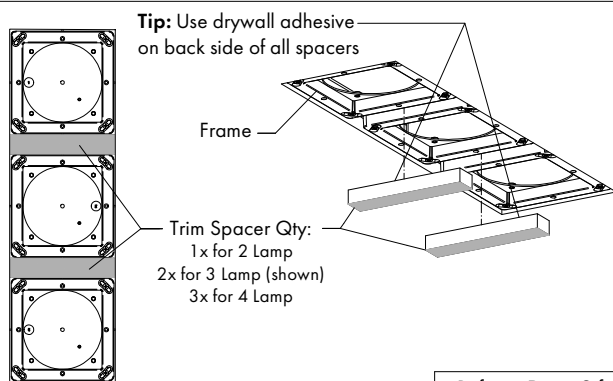

FIG 4.5 Install Trim Spacers for Square Trims
STEP 3 For Square Trims only - Secure Trim Spacers (make from drywall/sheet rock cutout) to metal surface on bottom of Housing. Refer to **Page 10** for cut length required - **FIG 4.5 & 4.6**.